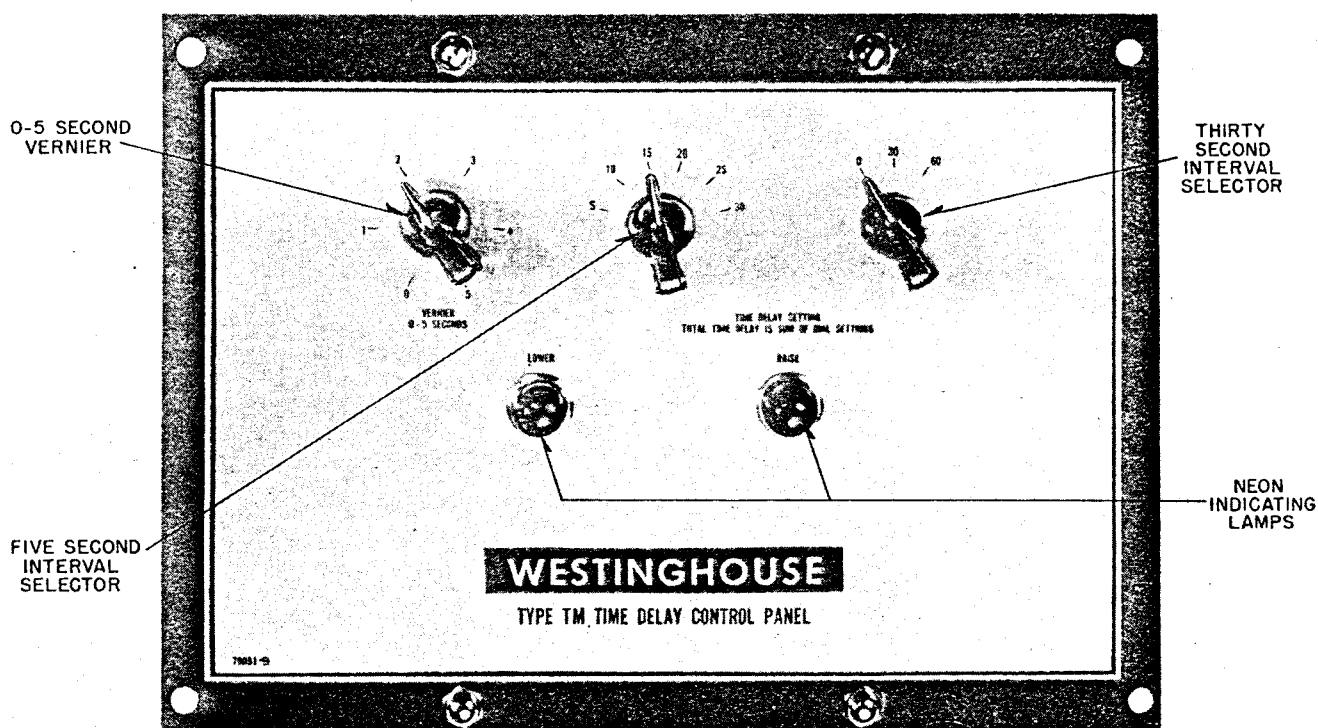
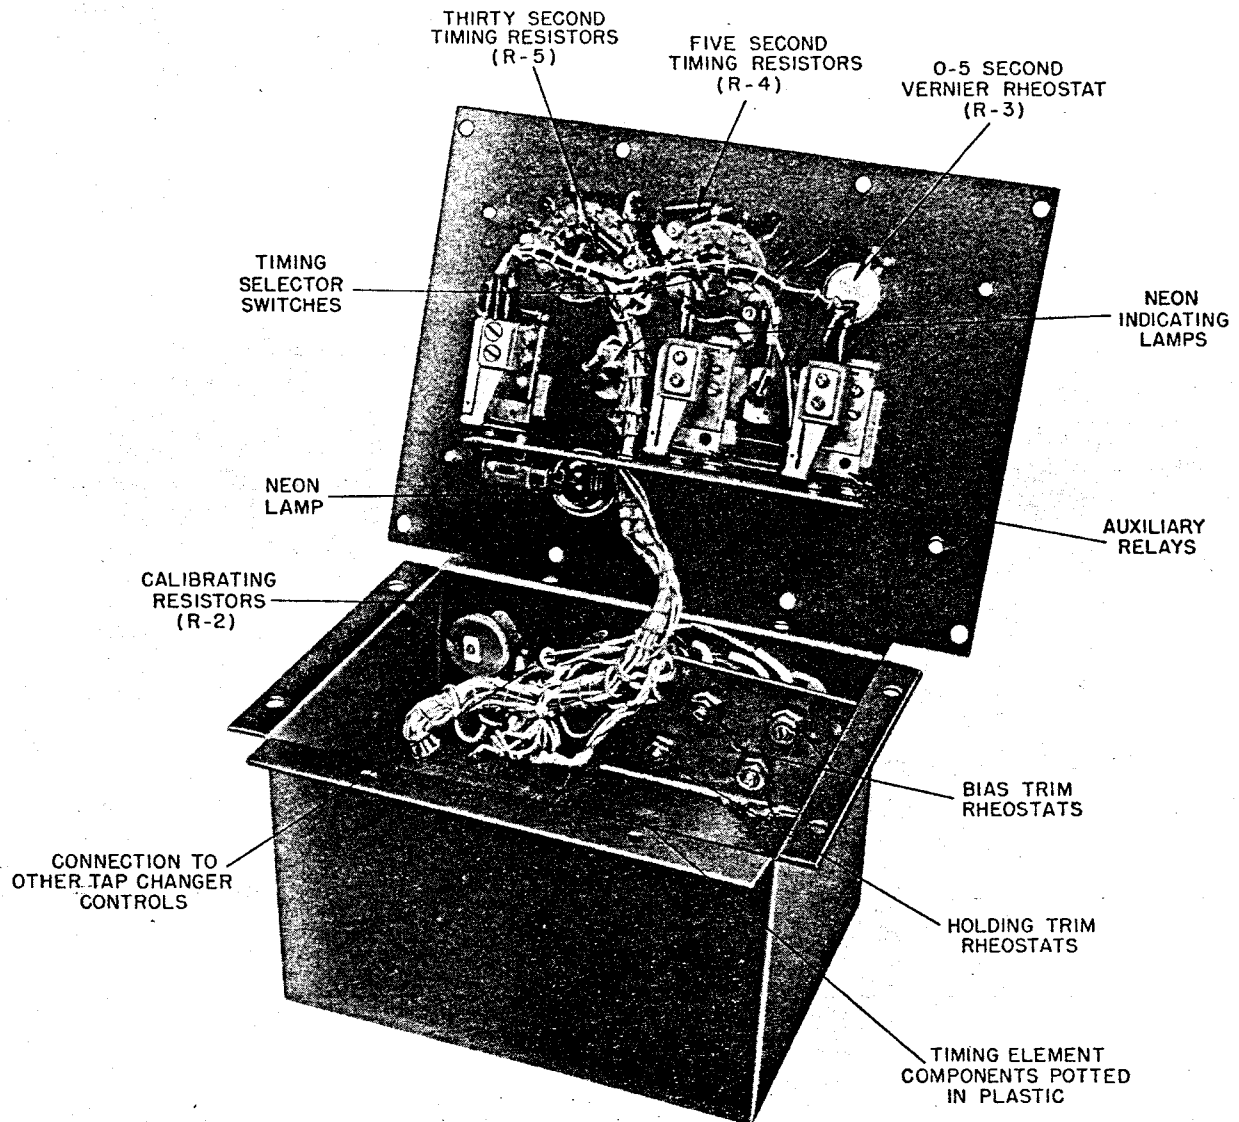

FIG. 2. Front View of TM Time Delay Relay
FIG. 4. Rear View of TM Relay Panel
**Time Delay Relay.** The TM time delay relay is shown in detail in FIGS. 2 and 4. An electrical matching network which is energized by the MS voltage regulating relay is sealed in the housing shown in FIG. 4. This matching network provides a reversible polarity voltage signal to be electrically timed by a resistance-capacitance timing circuit. The capacitance element is sealed in the housing. The timing resistance consists of a rheostat plus fixed resistors which are used in steps to provide the
desired delay setting. The rheostat is attached to the control panel while the fixed resistors are connected between terminals of the tap switches as shown in FIG. 4. A neon tube mounted on the rear of the control panel measures the voltage on the capacitor and, at the set delay, controls a MAGAMP magnetic amplifier which is sealed in the housing. The MAGAMP magnetic amplifier energizes two of the relays shown mounted on the rear of the panel, one relay for "raise" operation and one for "lower" operation, through contacts of the slug relay. The slug relay (NV) introduces a time delay to allow the Magnetic Amplifier to be under positive control, thus preventing malfunction of the "raise" and "lower" relay, when the control is energized initially.
Time delay settings are made by the use of calibrated dials shown in FIG. 2. One tap switch changes the timing resistance in steps to give five-second increments of time delay from five to thirty seconds while a second tap switch provides thirty-second increments from zero to sixty seconds. A rheostat provides a vernier range from zero to five seconds with a dial calibrated in one second increments. The vernier setting is added to the other settings, thus giving intermediate delays.